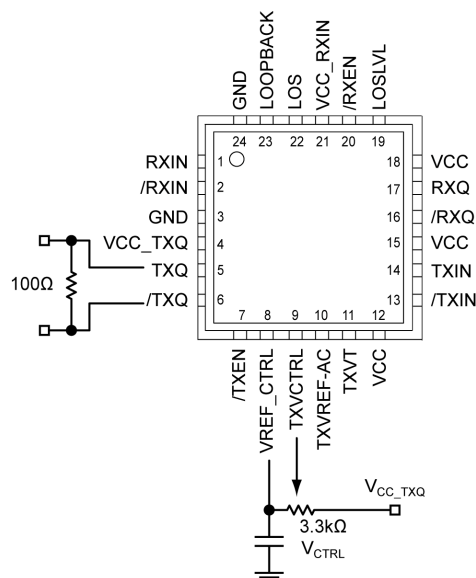

Figure 1b. Alternative Implementation
- Control of the transmitter output swing buffers can be obtained by using a variable resistor connected between V_{REF_CTRL} and V_{CC_TXQ} with a wiper connected to TXVCTRL as shown in Figure 1b